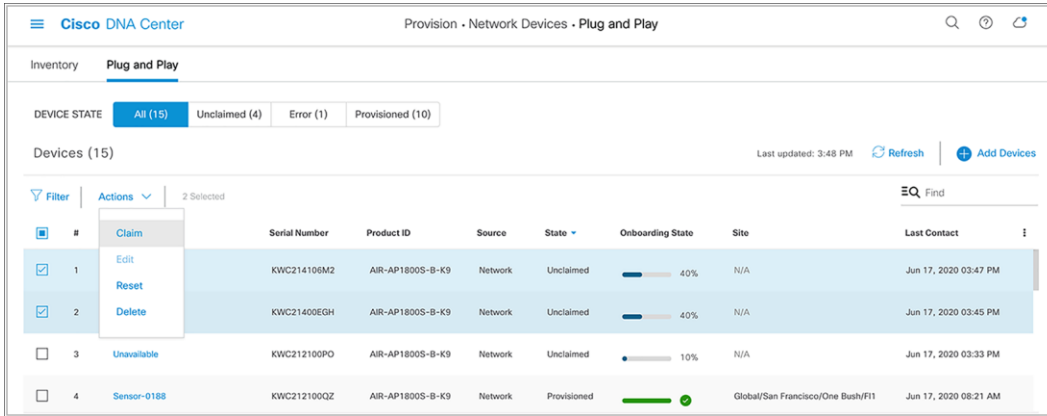

Figure 51.
- After you change the sensor name, your sensor is ready to be provisioned. Select the sensor from the list of unclaimed devices and click Claim in the Actions drop-down menu (Figure 51).